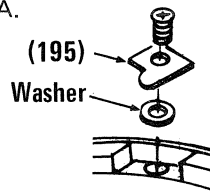

FIG. 2-17A
NOTE: The cam retainer plate (195) at the 2:30 position is mounted in reverse to the other retainer plates and has a thin washer underneath. Fig. 2-17A.